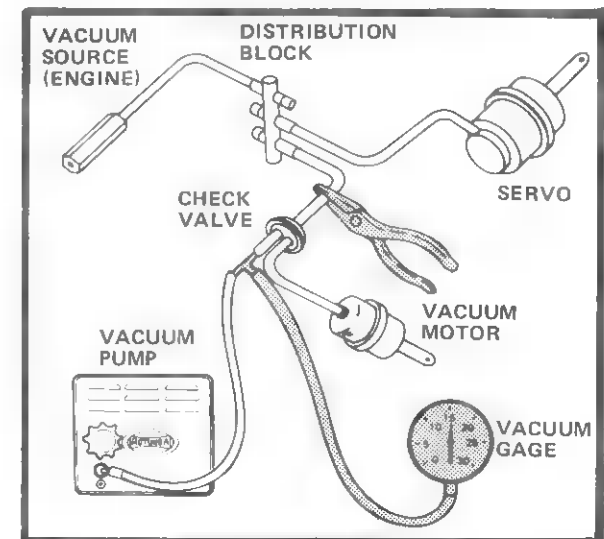

Figure 3 — Testing For Leak In Typical Vacuum System
3. Clamp supply hoses with needle-nose pliers one at a time until vacuum stops dropping (Figure 3).